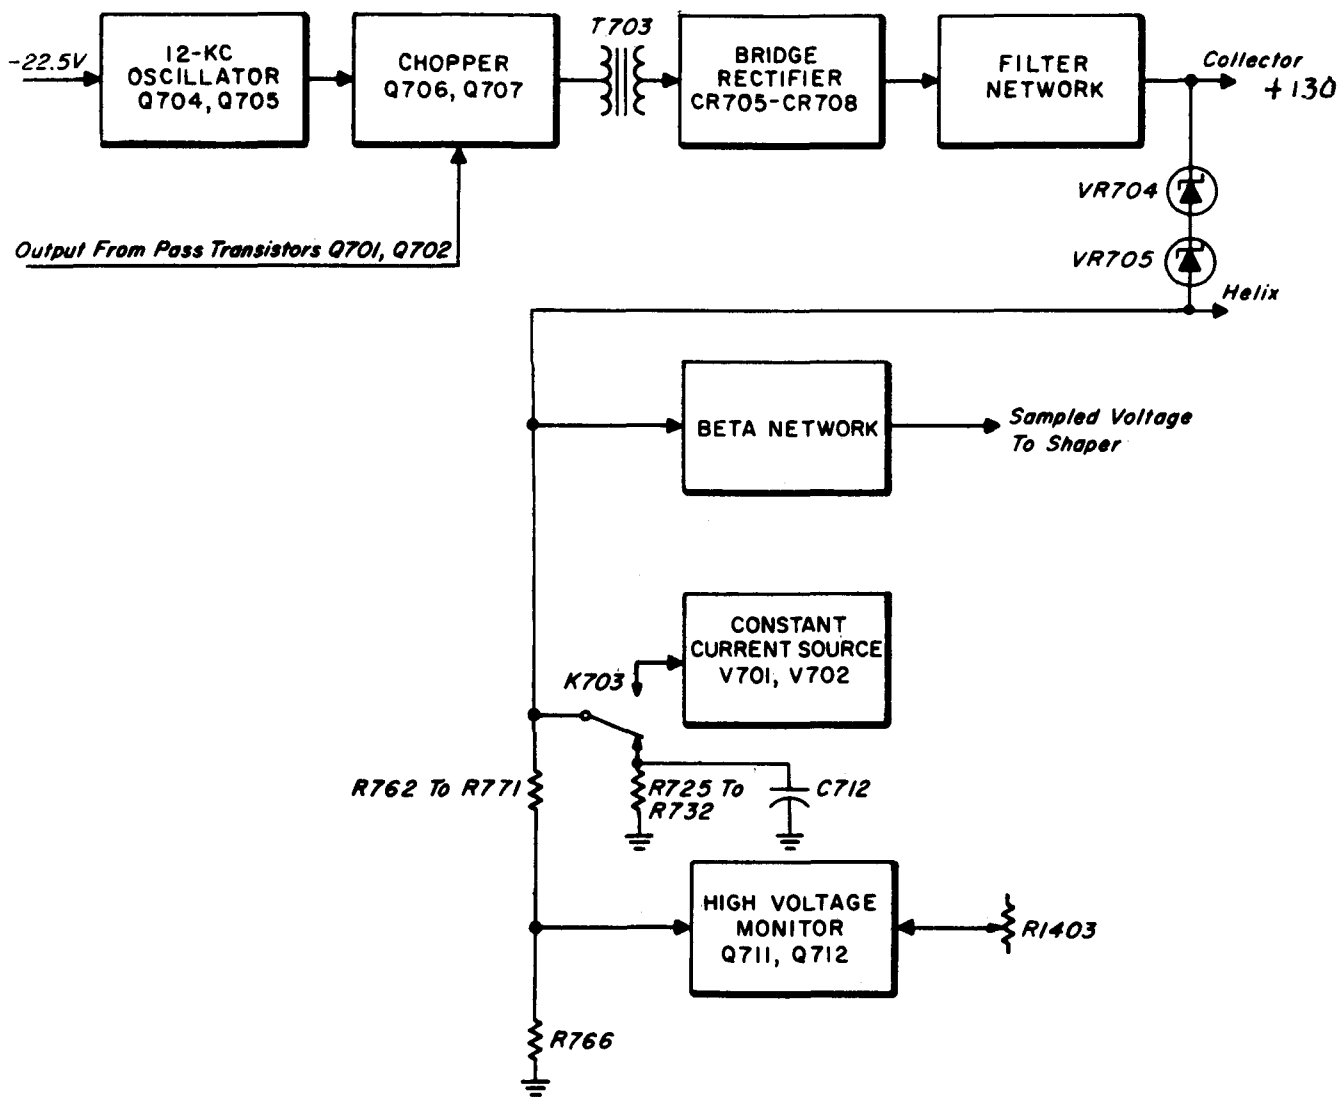

Figure 7. High-Voltage Circuits, Block Diagram
a. High-Voltage Circuits. The high-voltage circuits (figure 7) consist of a 12-kc oscillator, a chopper, a step-up transformer, a bridge rectifier network, a filter network, a Beta network and protective circuits consisting of a high voltage monitor and a constant current source. The 12-kc oscillator, consisting of Q704, Q705 and T702 generates a square